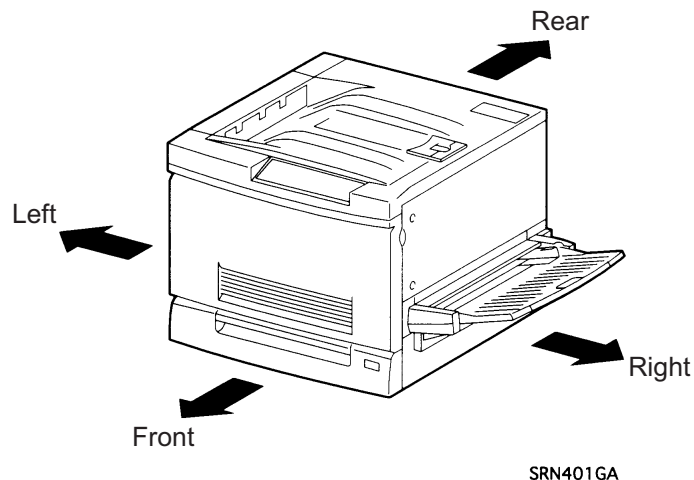

Figure 3-1. Directions
- Directions are described as mentioned below. (See Figure 3-1.)